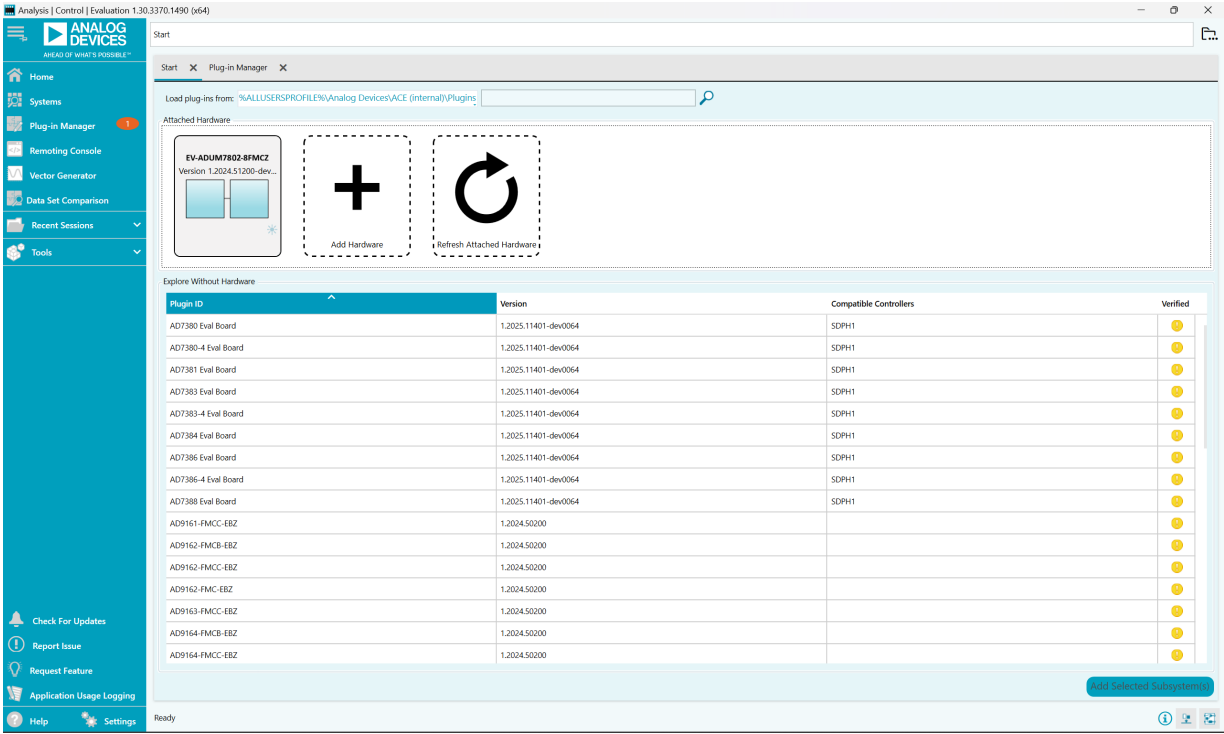
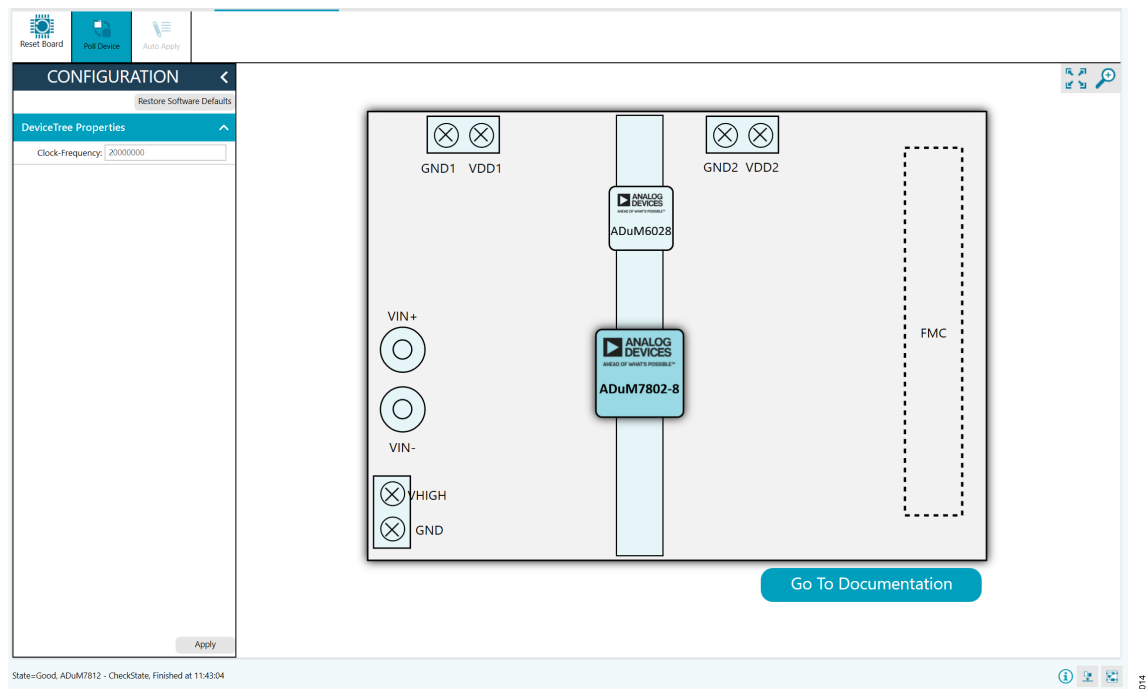

Figure 13. ACE Software Main Window
Figure 14. Chip View Window
In the **Start** menu of the PC, click **All Programs > Analog Devices > ACE > ACE.exe** to open the ACE Software main window, as shown in Figure 13.
- port by the ZedBoard when the ACE software launches, the **ADuM7802 Eval Board** icon does not appear in the **Attached Hardware** section in ACE (see Figure 13). To make the **ADuM7802 Eval Board** icon appear, connect the EV-ADuM7802-8FMCZ and the ZedBoard to the USB port of the PC, wait for few seconds, and then follow the instructions in the dialog box that appears.
Double-click the **ADuM7802 Eval Board** icon (see Figure 13) to open the chip view window, as shown in Figure 14.
After selecting the required clock frequency (maximum clock frequency: 25MHz), double-click the ADuM7802 diagram in the chip view window of the ACE Software (see Figure 14) to open the